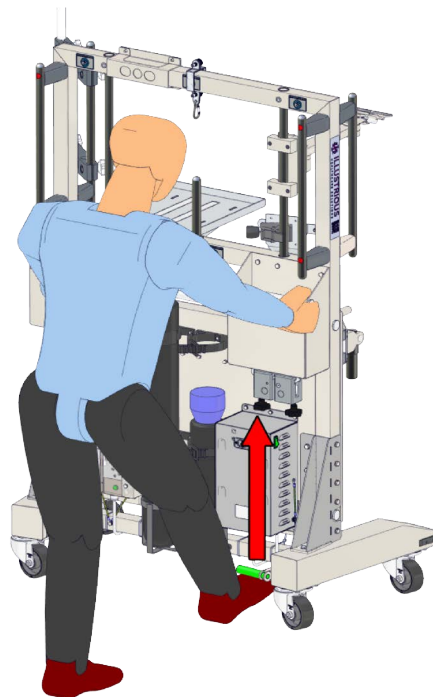

Fig 2.5 Release Brakes
- Lift brake pedals with foot to disengage (Fig 2.5).